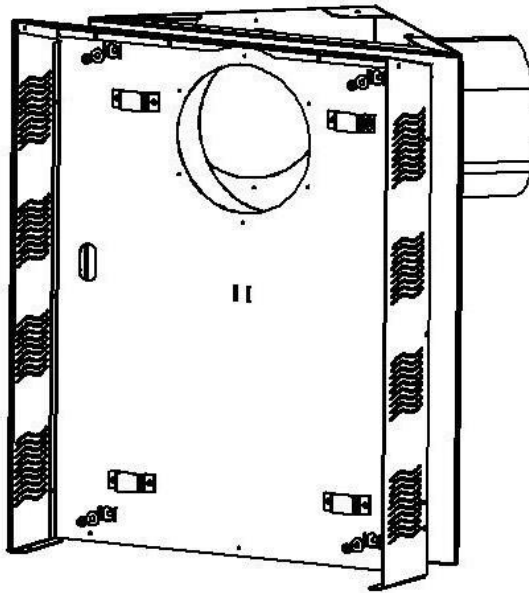

Fig. 5
**STEP 5:** Attach the top, left and right decorative panels to the fireplace mounting plate. These items came with your fireplace unit. Then attach the mounting plate (with three outer panels attached) to the corner wall mount unit and fasten in place with 4 lock nuts and washers. See Fig. 5.